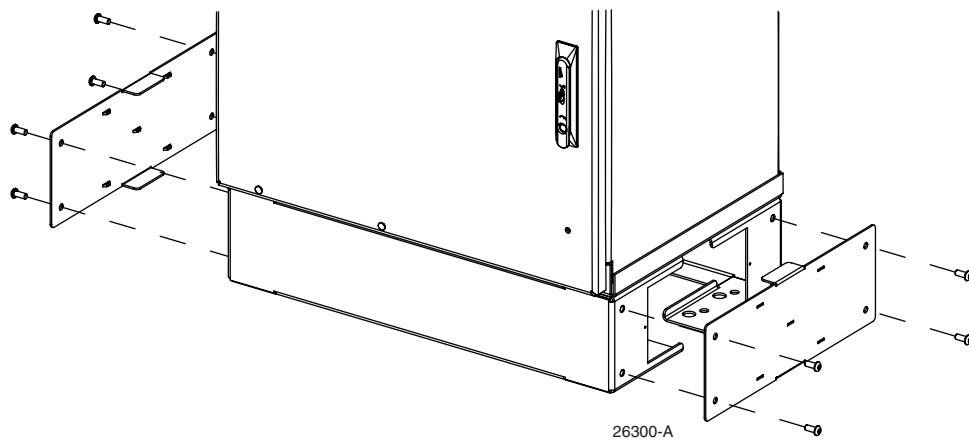

Figure 15. Removing Side Access Covers From Ground Riser
11.5.1 Use a 3/16-inch hex-key to remove the screws that secure the access covers to the left and right sides of the cabinet ground riser as shown in Figure 15.